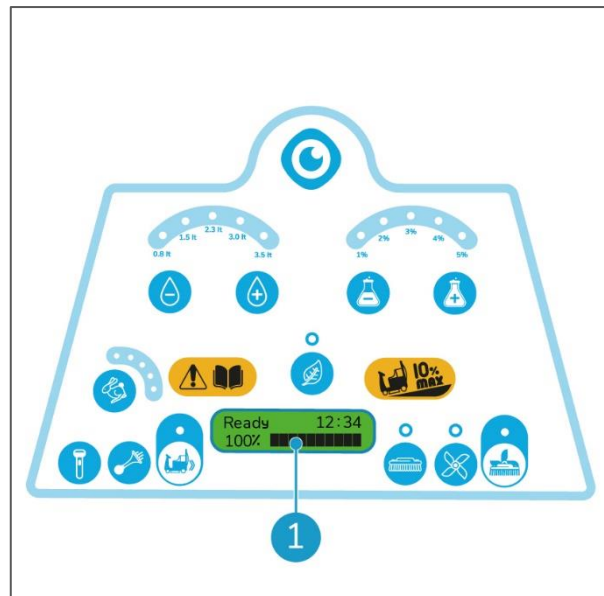

Figure 20
8. Wait a few seconds. The display should indicate 100% and all 10 bars of the battery level display should be visible (Figure 20, pos 1).